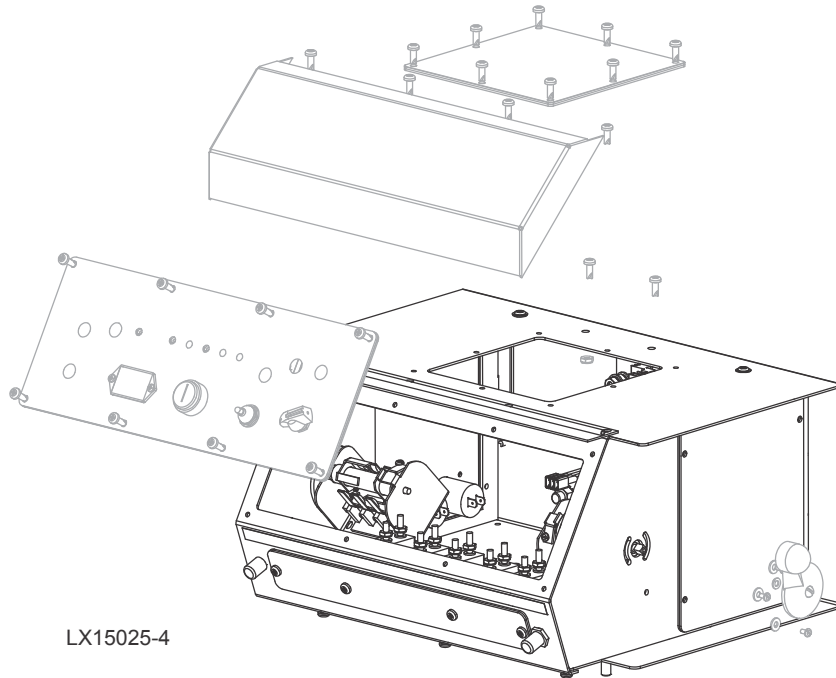

FIGURE 3
1. Remove the sawmill control box lid, front panel, up/down drum switch handle and switch mounting screw (releasing the drum switch for easier access), two screws with nuts (at the top rear center of the control box), and top panel. (See FIG. 3.)